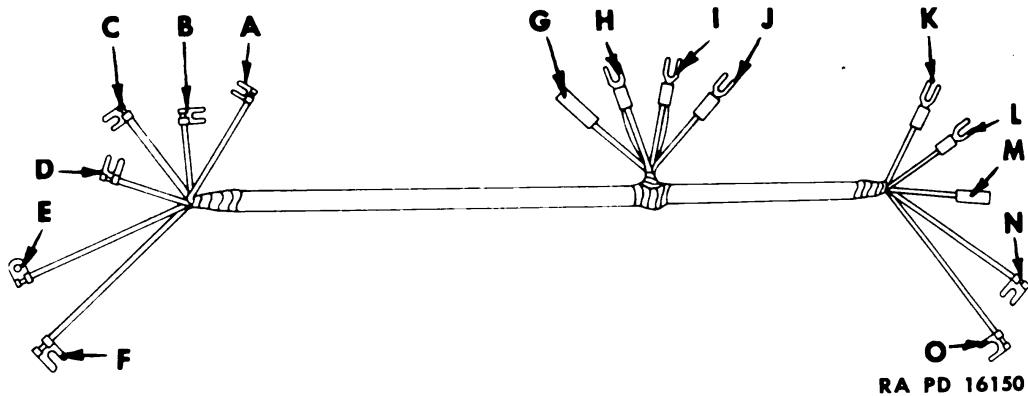

Figure 104—Headlamp Wiring Harness
h. **Head Lamp Harness (Fig. 104).** This harness extends from junction blocks through bulkhead and forward along top of floor channel and under forward deck to lamp junction blocks.